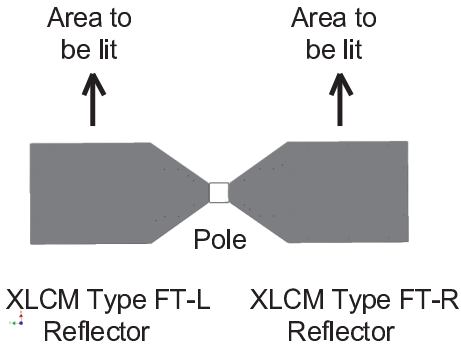

FIGURE 2
- 4. Match the reflector in the luminaire with the corresponding reflector type. See Figures 2 and 3.